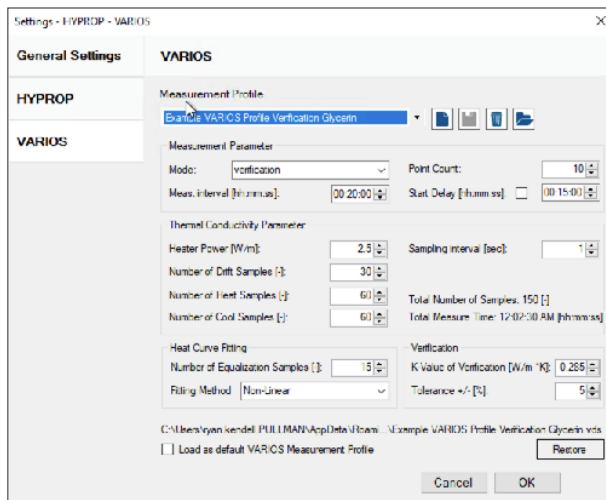

Figure 48 Example VARIOS Profile Verification Glycerin
7. Press the sensor through the glycerin vial septum (Figure 48).